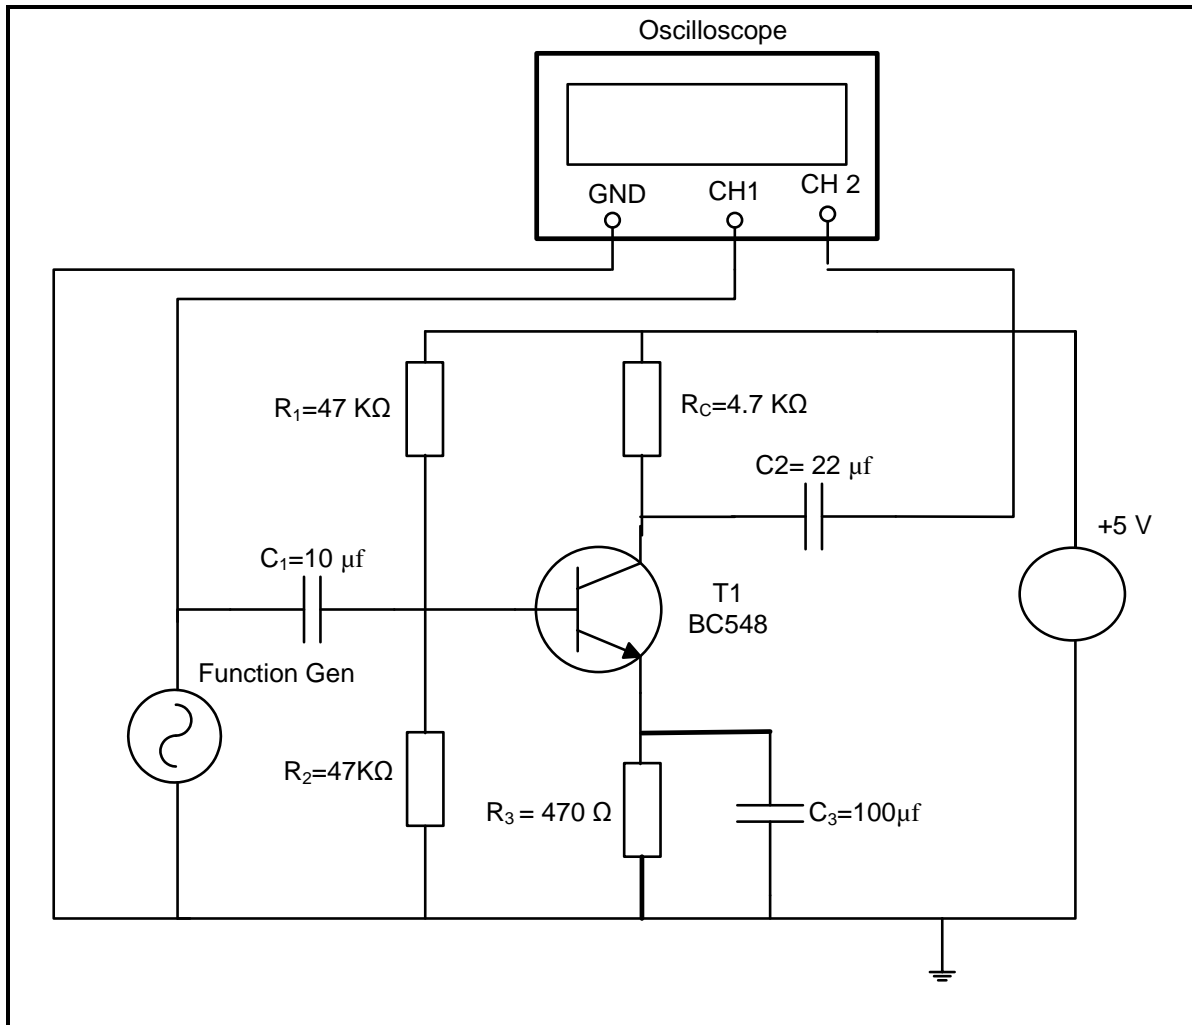

FIGURE 4.4.3: COMMON EMITTER AMPLIFIER
4.4.4(f) Explain why the circuit in FIGURE 4.4.3 is called a common emitter amplifier.